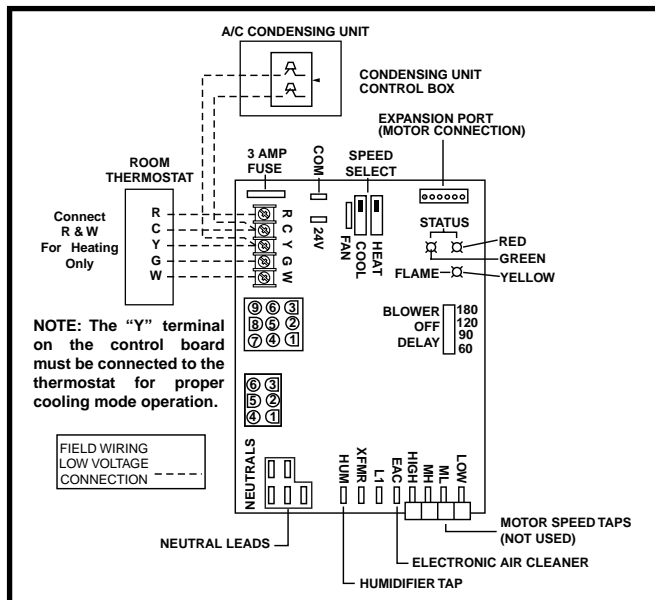
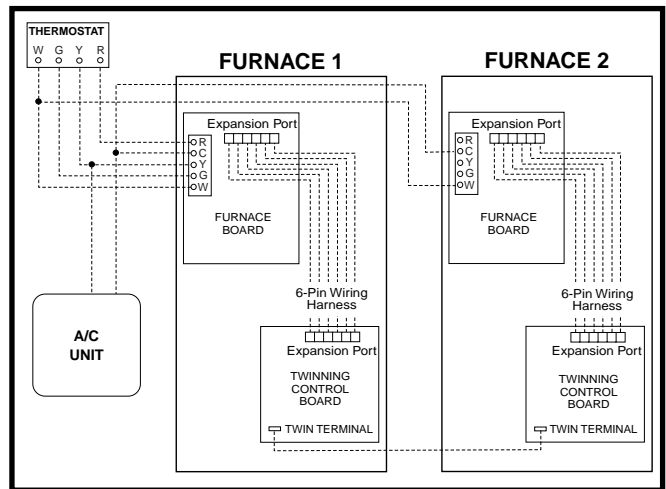

Figure 39. Low Voltage Field, Four-wire Heating / Cooling Applications
Figure 40. Single Stage Twinning
- The thermostat must be installed according to the instructions supplied by the thermostat manufacturer. Low voltage connections (24 VAC) from the thermostat are wired to the terminal strip on the integrated control in the furnace. Figure 40 \(page 32\) contains the proper connections for heating only (two-wire) and heating/cooling (four-wire) applications. Recommended minimum wire gauge for thermostat wiring is shown in Table 5 \(page 32\).
- The six pin terminal marked “Expansion Port” (Figure 39 \(page 32\)) is not used in the single stage furnace as shipped from the factory. It is used for the furnace control board to communicate to a fixed speed or variable speed high efficiency motor that may be optionally installed. Please contact your distributor for the proper upgrade motor kit. **Please Set the heat anticipator according to the instructions supplied by the thermostat manufacturer.** To determine the heat anticipator setting:
If both single stage furnaces are upgraded to the fixed speed iSEER™ blower, the twin terminal on the blower control boards Figure 40 \(page 32\) may be used to twin the single stage furnaces only if the following criteria are met:
For twinning of single stage furnaces equipped with fixed speed iSEER™ blowers, refer to Figure 40 and the following instructions:
3. Refer to Figure 40 \(page 32\) for the remaining thermostat connections. The **C** connection must be made between the twinned furnaces to ensure proper performance.
The operating sequences for the heating, cooling, and fan modes are described below. Refer to the field and furnace wiring diagrams: Figure 39 \(page 32\), Figure 40 \(page 32\), & Figure 42 \(page 39\).